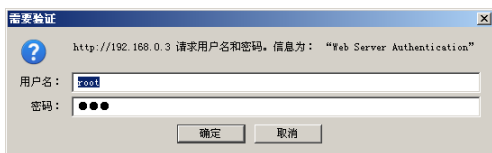

Figure 6 Log in page
1) Using cross-over cable or straight-through cable to connect an Ethernet port in the Server with the network card of PC through Ethernet. Type the IP address of switch in IE browser, such as IP is 192.168.0.3, press “Enter” key, you can see the page as Figure6. Enter the default username “root” and the default password “123”, click “Sign in” to enter the WEB’s main page.